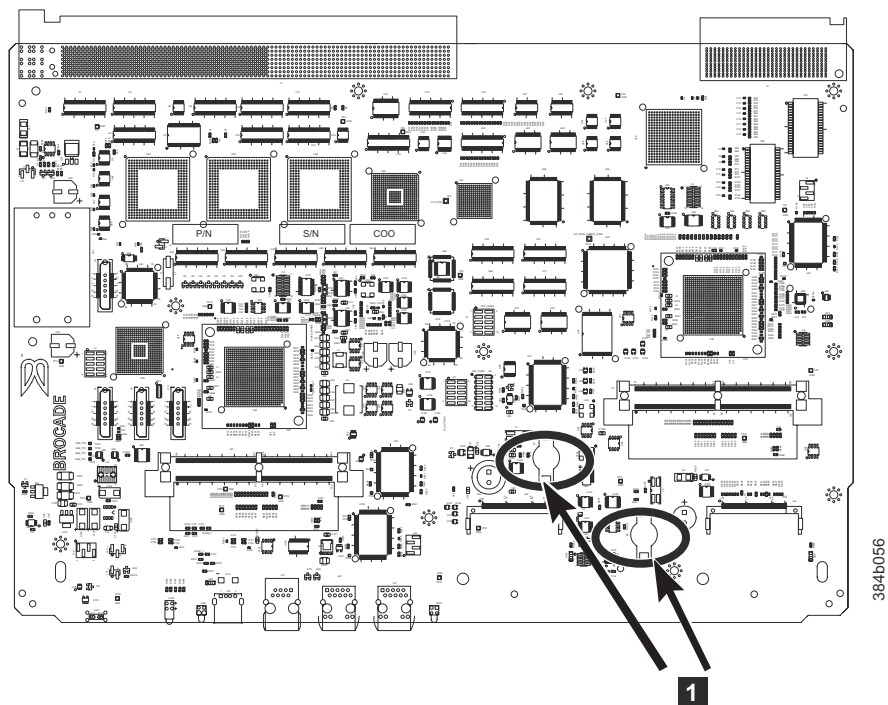

Figure 51. Battery locations on the CP8 blade
6. Go to the locations and remove the two BR1225 batteries from each of the PCBAs (see **1** in Figure 51):